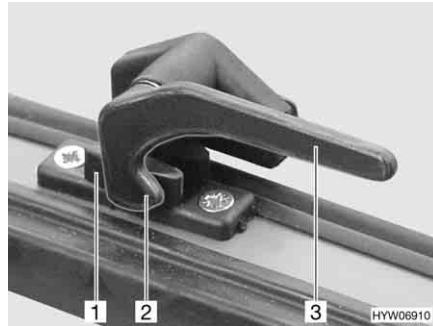

Fig. 82 Catch lever in "closed" position
*Opening:* ■ Turn all catch levers (Fig. 82,3) a quarter turn towards the centre of the skylight.
■ Turn all catch levers (Fig. 82,3) a quarter turn towards the frame. The locking catch (Fig. 82,2) is located on the inside of the skylight lock (Fig. 82,1).
- "Firmly closed" (Fig. 82)